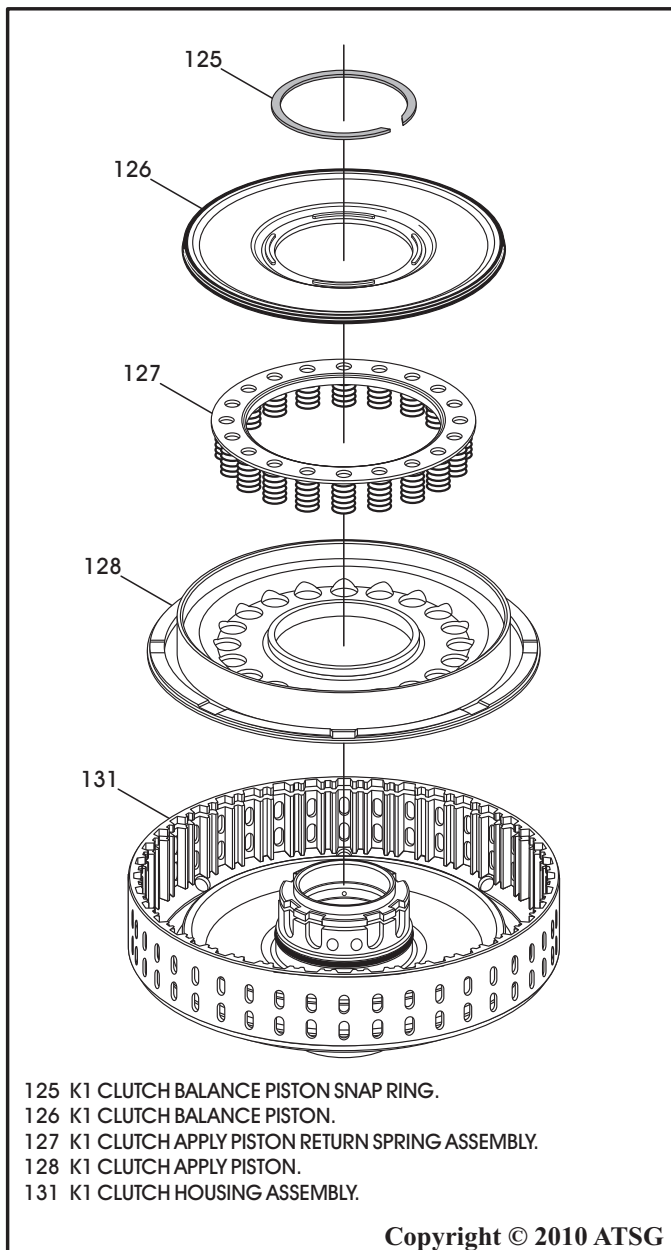

Figure 115
9. Lubricate the seal surfaces of K1 clutch apply piston and install the piston into K1 clutch housing, as shown in Figure 115
10. Install the K1 clutch apply piston return spring, as shown in Figure 115, and ensure springs are engaged in apply piston spring pockets.
11. Lube the balance piston seal and install piston, as shown in Figure 115.
12. Compress the balance piston and install the snap ring, as shown in Figure 115.